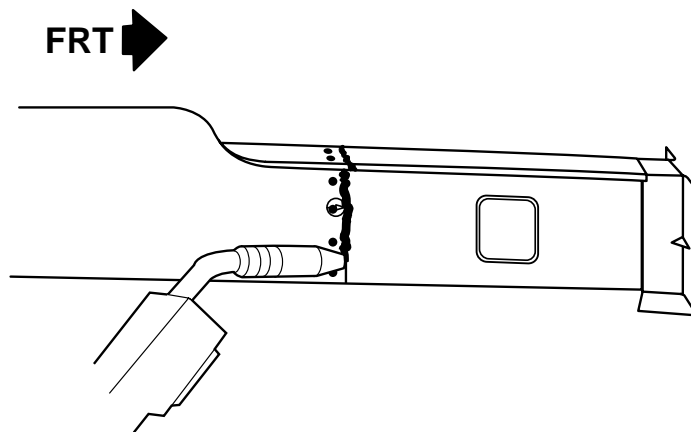

Figure 5-8:
- 8 Stitch weld along the entire sectioning joint. Make 25mm (1 in) welds along the seam with 25mm (1 in) gaps between them (figure 5-8). Then go back and complete the stitch weld. This will create a solid joint with minimal heat distortion.